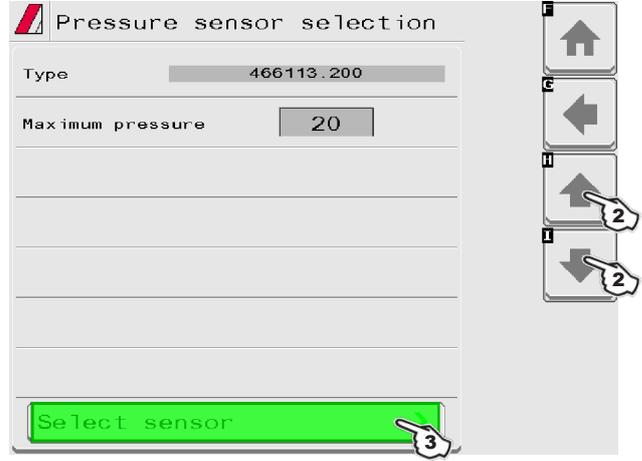

Fig. 44
- 1 Set installed pressure sensor by selecting it from the list in Fig. 44 (use keys 2 to scroll items, and key 3 to confirm).